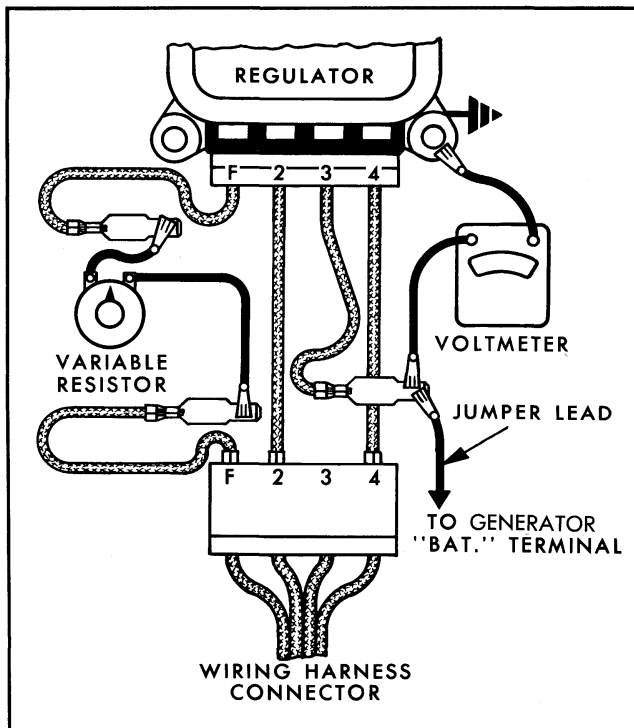

Fig. 11-37 Checking Voltage Setting
B. Make connections to the adapter as shown in Fig. 11-37. Use a 25 ohm 25 watt variable resistor in series with the generator field winding at the regulator "F" terminal, and connect a jumper lead from the adapter to the generator output or "BAT" terminal as shown. Also, connect a voltmeter from the adapter to ground, as shown. Turn the variable resistor to the closed or "no resistance" position.